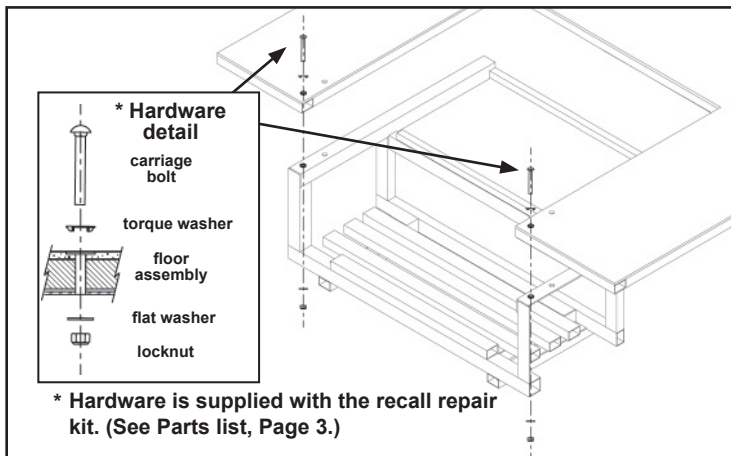
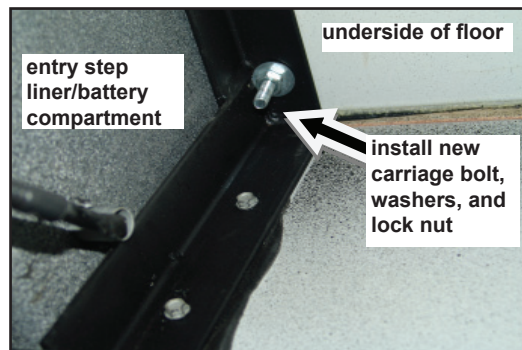

Figure 6
Figure 7
9. Ensure the new bolt passes through the structural tubing in the floor and through the step cage's angle steel under the floor, as shown in Figures 6 and 7. Install the bolt using a torque washer under the head. Use a flat washer and lock nut to secure the bolt against the angle steel on the underside of the floor as shown in Figure 7. Use care to avoid crushing the structural tubing when tightening the carriage bolt.